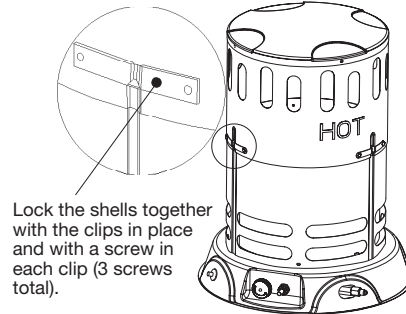

Figure 4
4. Lock the clip into place with 3 screws as shown. The heater must not be operated unless the outer shell is properly extended and fully locked into place. (See Figure 4)